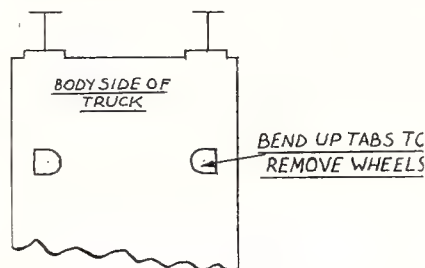

FIG 1
Fencing is another lineside feature in which short lengths of rail may be used to advantage. Fig. 1 shows a straight post which may be bedded direct into the ground or set in a square concrete base. Holes are drilled through the web of the rail to carry the fencing wire through. Barbed wire is generally strung on the outside of the post and secured with short lengths of plain wire passed through the hole in the post and wrapped around.
2. With the bodies removed, one can now bend up the tabs on the ends of the wheel holders to remove the wheels and bearing plates as shown in figure 1.